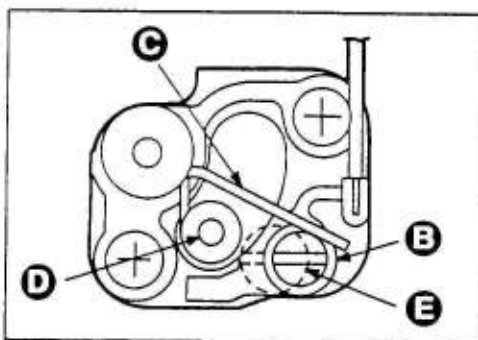

Fig. 5
- ① If the eccentric pin (B) is drawn too much in the direction (E), it will touch the working pin (D), resulting in malfunction. So, be careful. (See Fig. 5.)
- ② Check the source voltage is 6V.